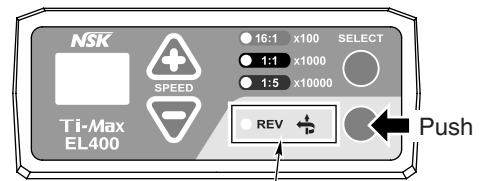

Fig.9
- ④ Select FWD/REV rotation using the FWD/REV Select switch. (Fig. 9)
- ⑤ The micromotor operation will be controlled by the air switch/foot pedal of the delivery unit.